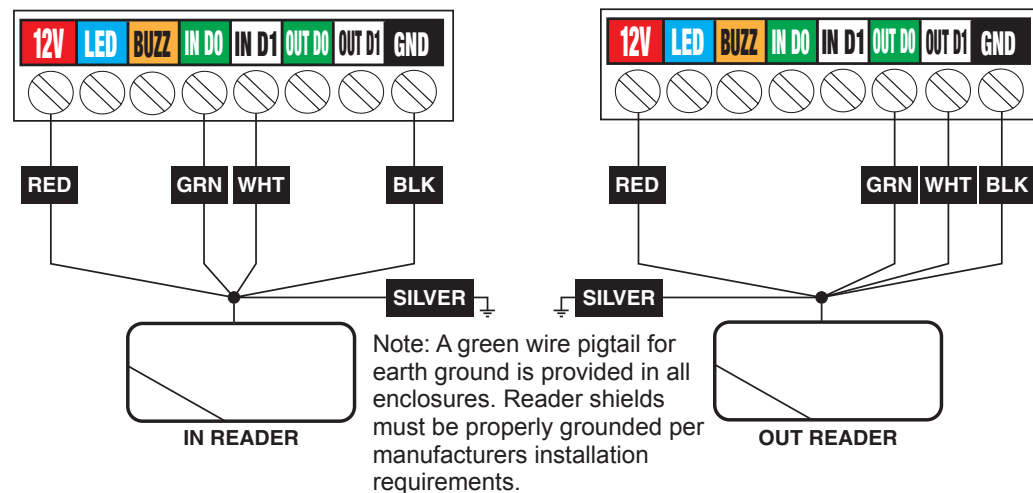

Figure 6.1. Reader Wiring (typical)
3. Connect the color-coded wires from the reader's wiring harness to the appropriate location of terminal strip as shown in Figure 6.1.